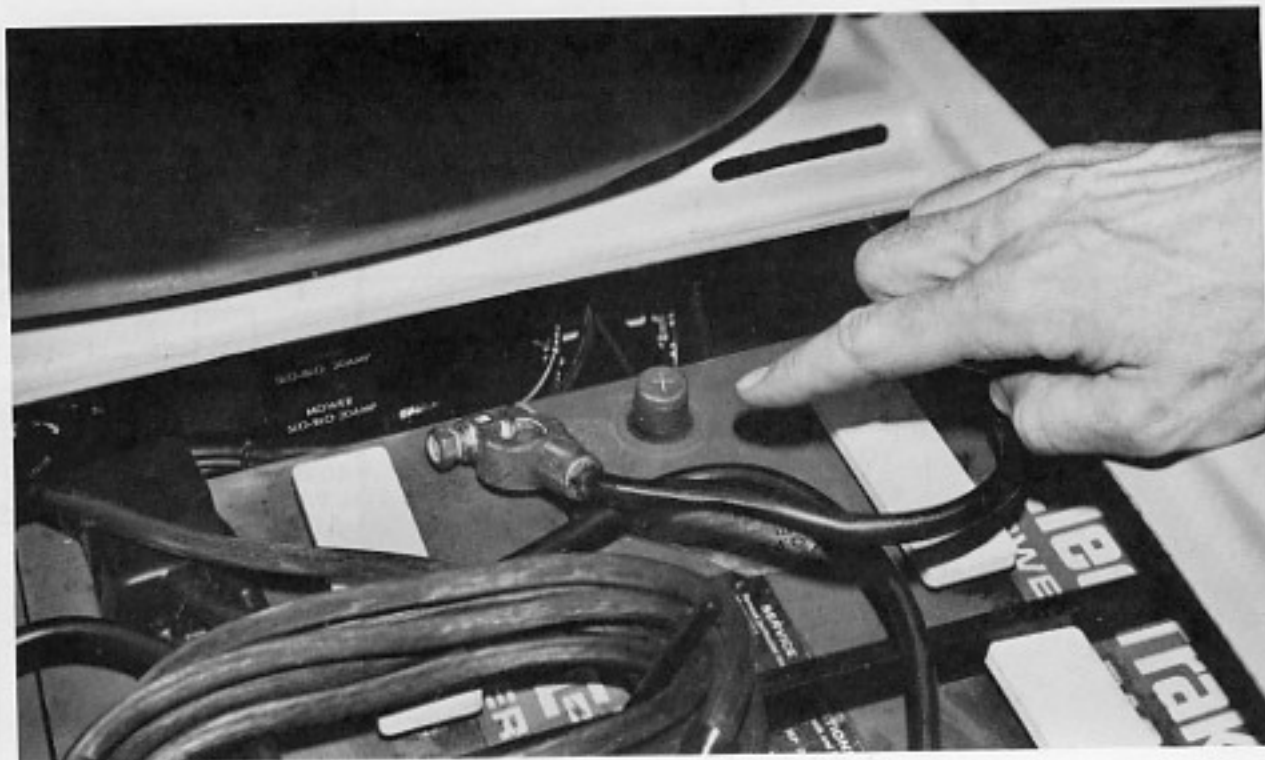

Fig. 7
**WARNING: SINCE THE ER8 RIDER IS NOT EQUIPPED WITH A POWER DISCONNECT, THE BATTERY CLAMP TERMINATING WIRE NUMBER 2 MUST BE LIFTED FROM THE POSITIVE POST OF BATTERY B1 BEFORE PROCEEDING WITH SERVICING OF THE RIDER UNLESS VOLTAGE MEASUREMENTS MUST BE MADE! SEE FIG. 7.**